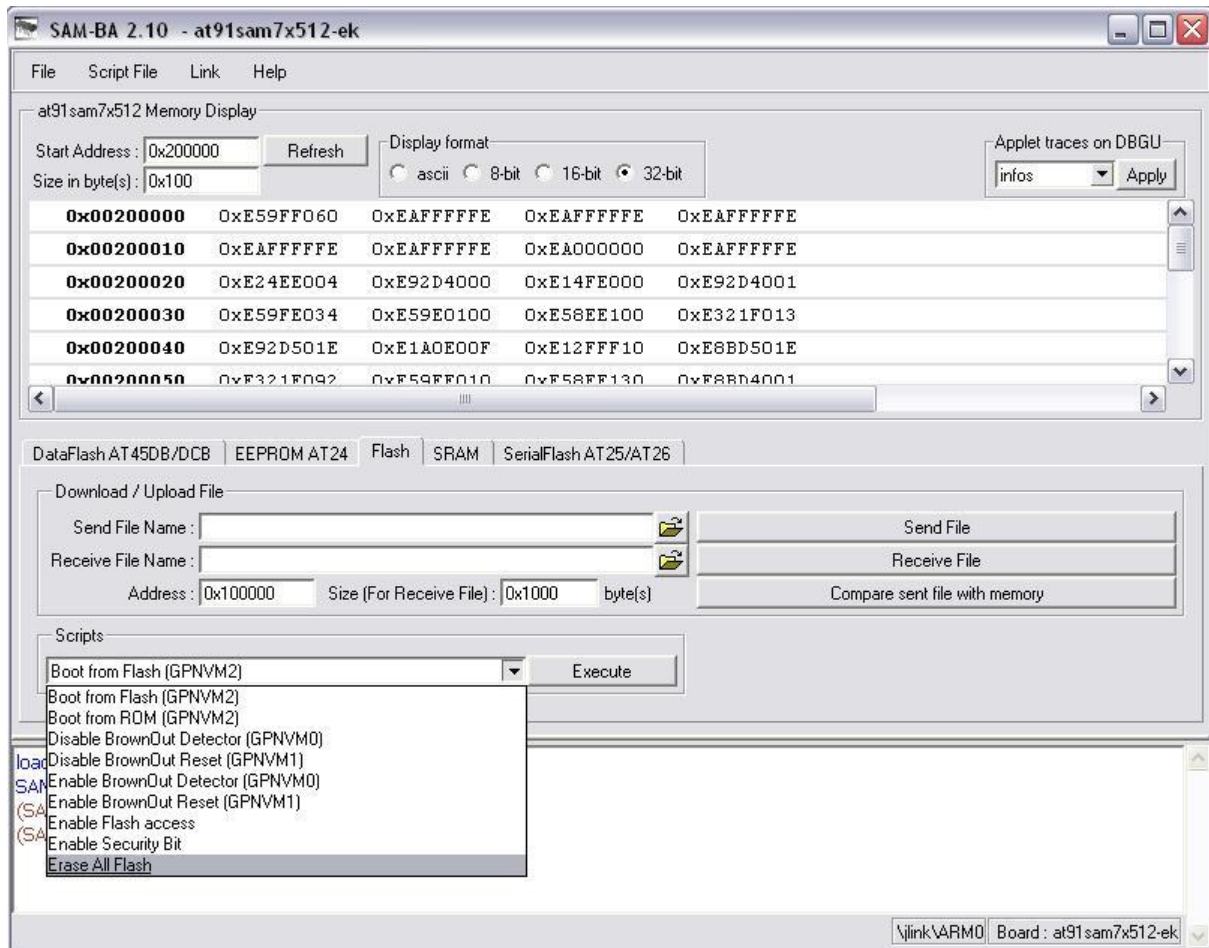

Figure 21: SAM-BA erasing the internal flash
3. Before programming the MCU flash, it is necessary to erase the internal flash. Select the script 'ERASE ALL FLASH' and click 'EXECUTE' (Figure 21). Be careful: the whole internal flash content will be deleted.